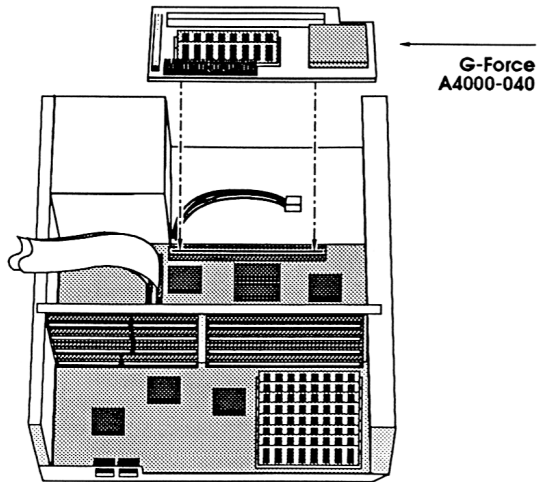

Figure 2.9 – Align A4000 G-Force 040.
- 9) Locate the A4000 G-Force 040 board as shown in *Figure 2.9* and align the connector on its lower surface with the CPU slot on the Amiga motherboard.